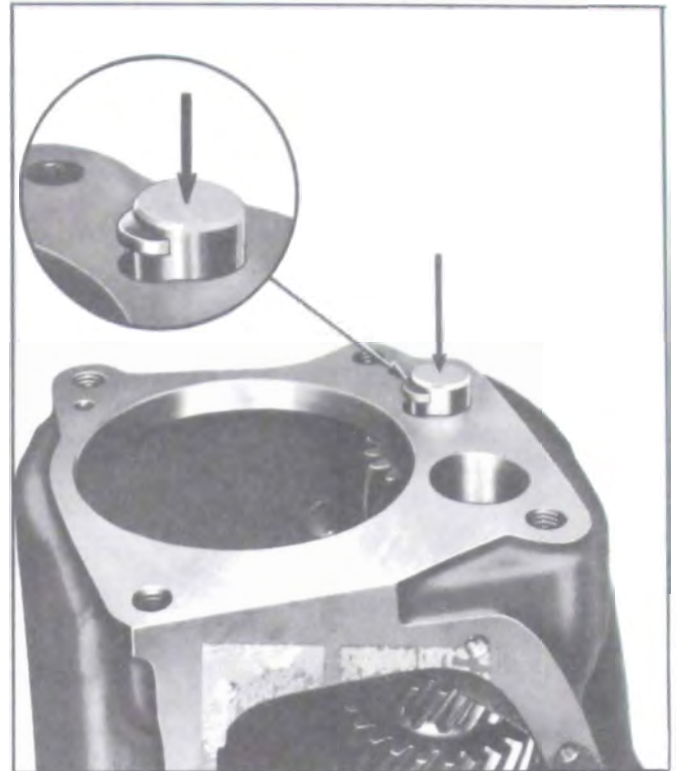

Figure 4-64—Installing Countershaft
6. With the transmission case resting on its front face, move countergear into mesh with main drive gear. Be sure thrust washers remain in place. Install woodruff key into end of countershaft and press shaft (fig. 4-64) until end of shaft is flush with rear face of transmission case.